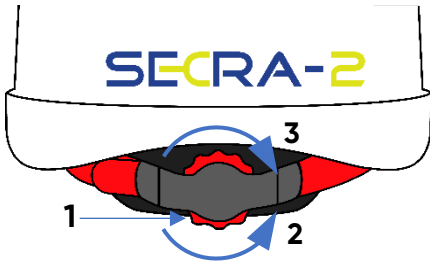

Fig. 1
The hard hat is equipment with a ratchet mechanism to adjust to the circumference of the head with the precision of 1mm over a range of 53 to 63 cm. After putting the helmet on the head, adjust it to the head circumference by turning the knob of the headband (1) located on the back of the helmet (Fig.1). Turning to the left (2) allows you to loosen and turn to the right (3) to tighten the headband.